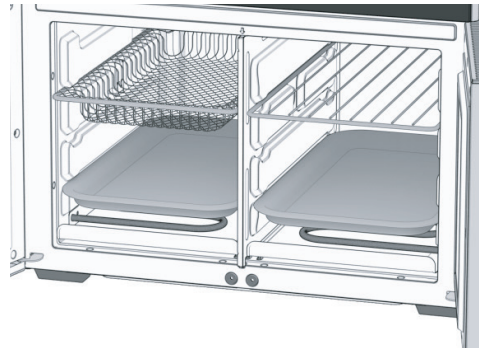

Figure 3
- The divider must be in place when using the small air fry basket, wire rack and baking pan (see Figure 3).